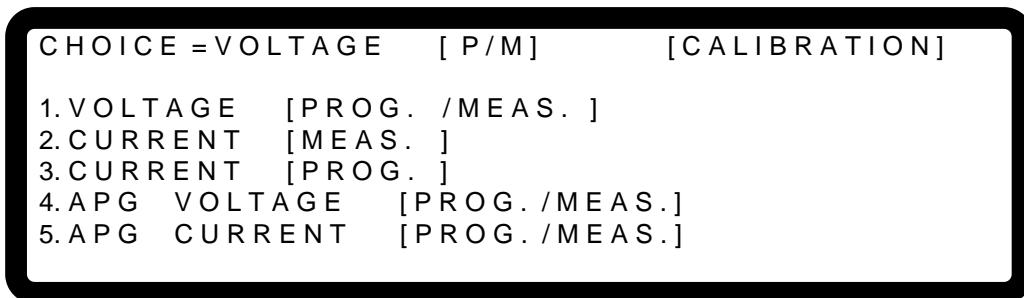

Figure 3-101
2. Enter the password and press “**ENTER**” to confirm. The screen will display 4 calibration options as shown in Figure 3-101. The calibration steps are described in sections 3.3.7.1 to 3.3.7.5.